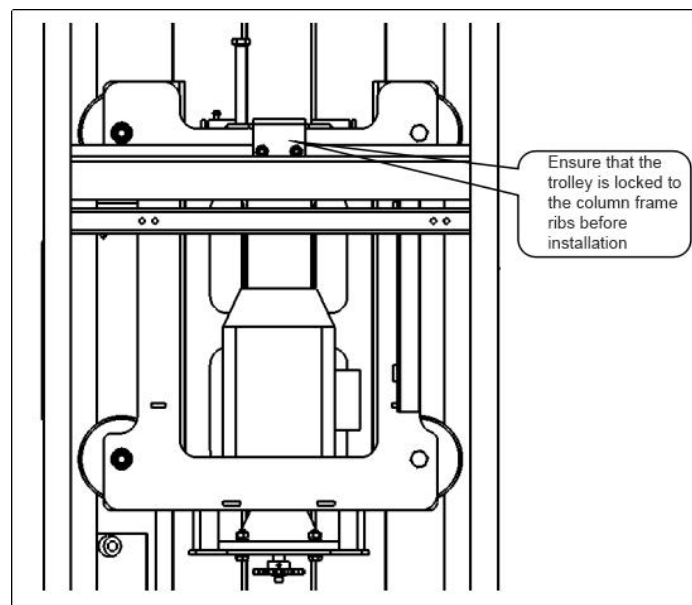

Figure 4.5.1 Locking trolley
- (1) Move the equipment to the installation area with a forklift, and remove the items used for outer packing, tying materials and fixing equipment.
- (2) Take out the attached tools, check whether the equipment is complete and put in order.
- (3) Make sure the trolley is locked on the stiffener plate of the support frame, to prevent the lifting body from colliding with the base and damaging the parts during the erection process. As shown in figure 4.5.1.